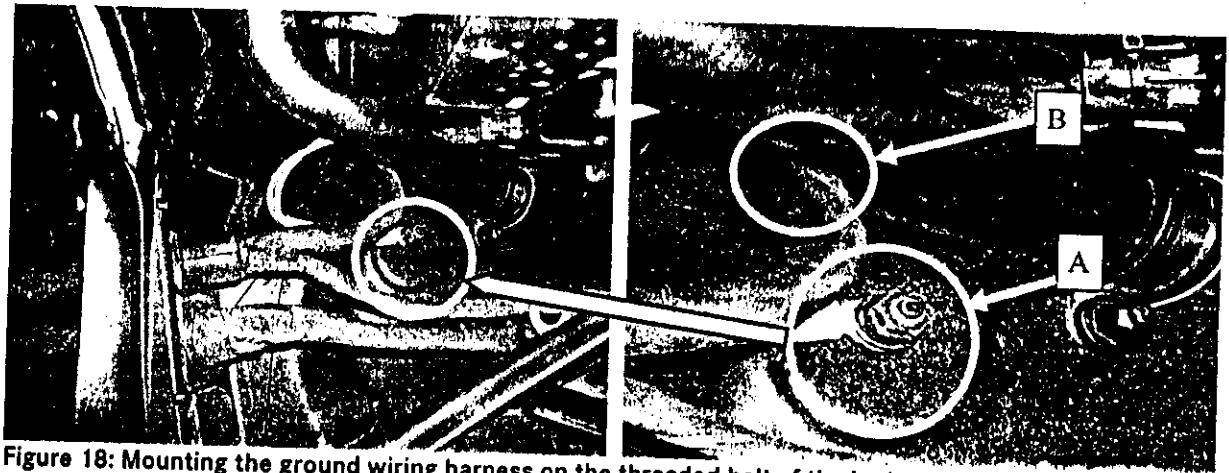

Figure 18: Mounting the ground wiring harness on the threaded bolt of the body
Note: The position of the cable lug must be maintained as shown in Figure 18 (A). Chafing marks are to be avoided!